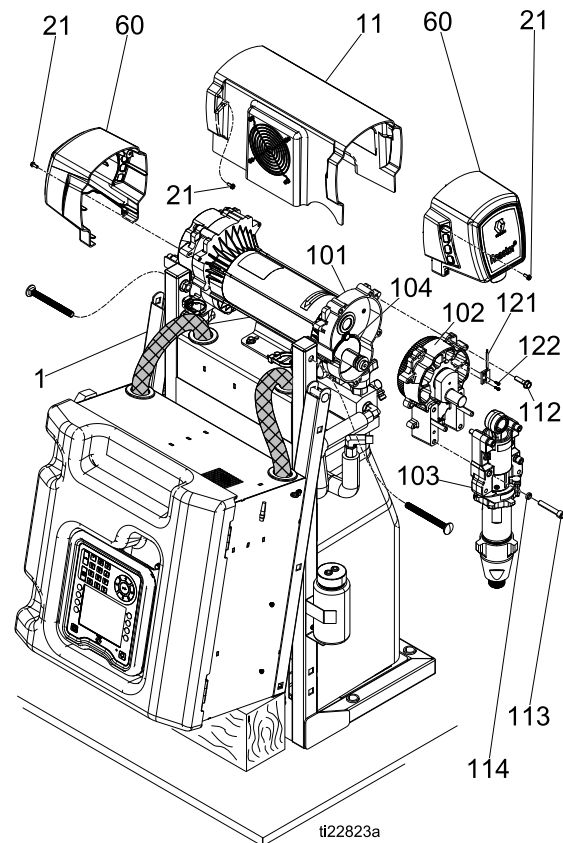

Figure 4
1. Ensure locknut (G) is screwed on pump with flat side up. Screw pump into bearing housing (M) until pin holes align. Push pin (F) in. Pull retaining wire clip (E) down. See Fig. 4 for view and assembly notes.
2. Continue screwing pump into housing until fluid outlet (D) is aligned with steel tube and top threads are $\pm 1/16$ in. (2 mm) of bearing face (N).
3. Tighten locknut (G) by hitting firmly with a non-sparking hammer.
4. Reconnect fluid inlet (C) and outlet (D).